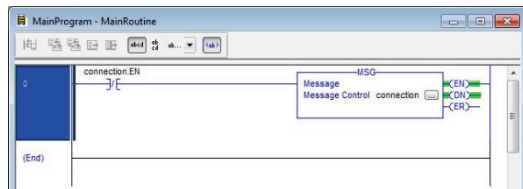

Figure 64: Complete Program
6) The program is now complete. Refer to Figure 64.